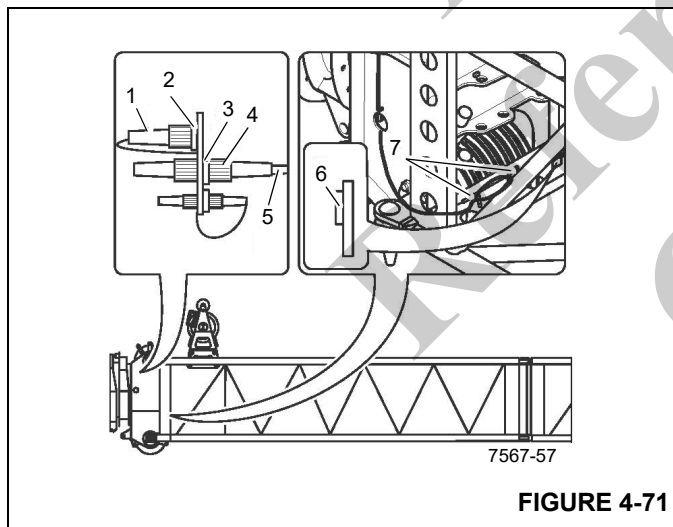

FIGURE 4-71
1. Remove the bridging plug (1) (Figure 4-71) from the socket (3) and plug it into the dummy socket (2).
2. Unwind the cable (5) from the holder (7).
3. Remove plug (4) from the dummy socket (6) and plug into the socket (3).
4. Wind up the cable (5) far enough on the holder (7) so that it will not be damaged during operation.